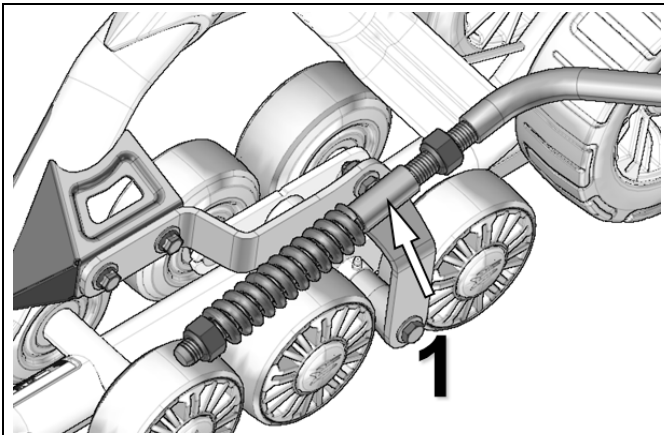

Figure 8
- Stabilizing arm (1) must be attached to track system and to rear anchor bracket (2) installed on vehicle. See figures 8 and 9.